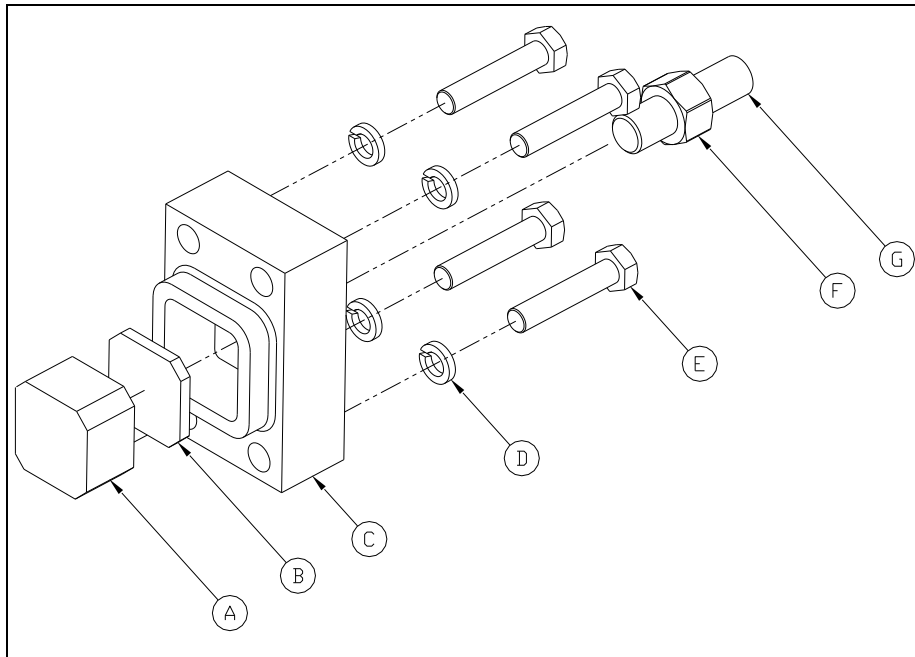

Figure 36 - Wear Pad Assembly
***THESE PADS ARE PROVIDED WITH A JACKING GRUB SCREW AND LOCKNUT ASSEMBLY (PART G AND F IN Figure 36, RESPECTIVELY) LOCATED ON THE OUTSIDE OF THE BOOM, UNDER THE FRP COVER. TO ADJUST, UNBOLT THE M16 LOCK NUT AND SCREW EITHER IN OR OUT THE M16 GRUB SCREW TO ADJUST THE WEAR PAD BY THE DESIRED AMOUNT. RE-TIGHTEN THE LOCK NUT AFTER ADJUSTMENT.***